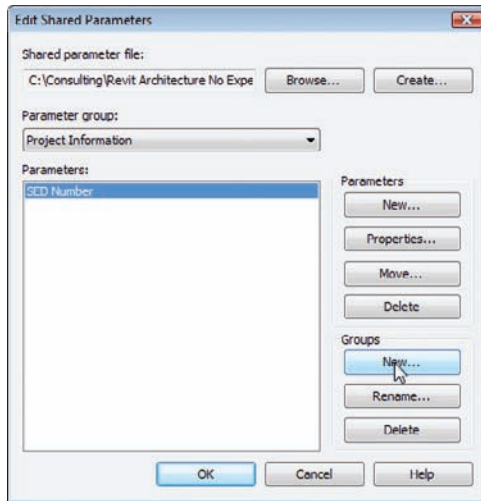

FIGURE 23.21 Filling out the information for the shared parameter
9. In the Groups field, click the New button as shown in Figure 23.21.